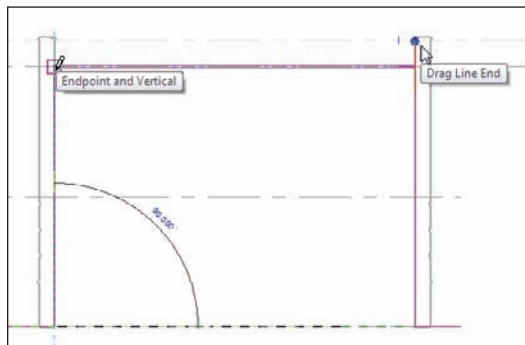

FIGURE 4.40 Modifying the sketch lines by stretching the grips to form a continuous loop
3. On each end, you will see a round, blue grip. Pick each grip and stretch the line to the intersection of the vertical magenta lines, as shown in Figure 4.40.
4. Select the left, vertical magenta line and stretch the top grip down to the intersection of the horizontal magenta line, as shown in Figure 4.40.
5. Select the right, vertical magenta line and stretch the top down to the horizontal magenta sketch line. You should now have a continuous loop (see Figure 4.40).